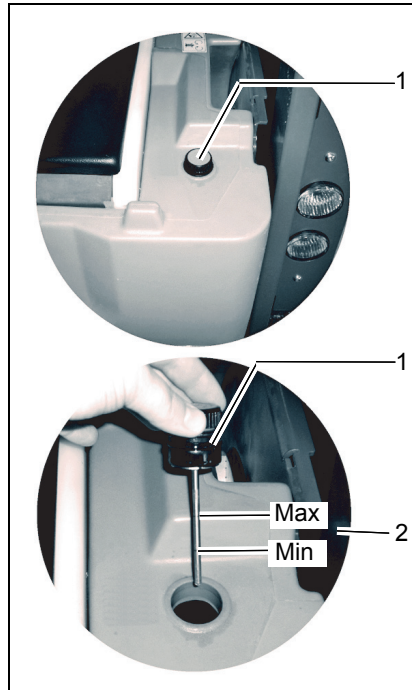

Fig.24
1. Unscrew cap with dipstick (Fig. 24/1) and check hydraulic fluid level, see paragraph 5.9.1.
4. The hydraulic fluid level must not fall below the minimum. It should read between the minimum and the maximum (Fig. 24/2).